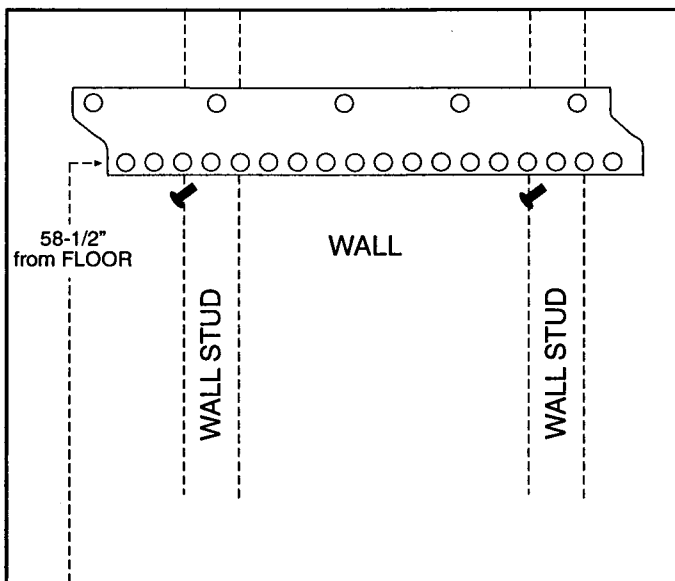

Figure 2
2. Measuring 58-1/2" from floor, and with the side of the bracket with five holes facing up, bolt bottom of Bracket A into wall where studs are located (Figure 2). (Bracket hole spacing accommodates 16"oc or 24"oc stud spacing.)